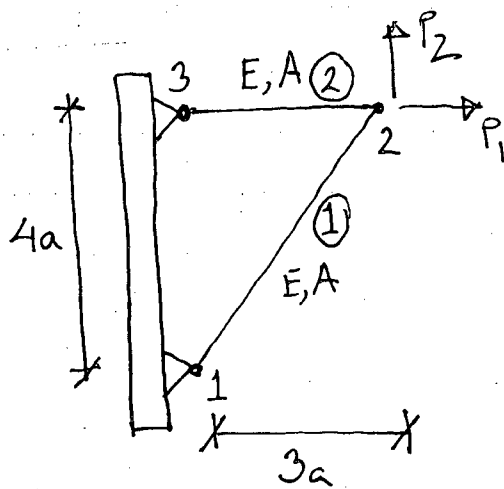

Fig. 8
(c) A simple plane truss is made of two bars and loaded as shown in Fig. 8. Find (i) displacement of node 2 and (ii) strain-energy in each bar. (12)